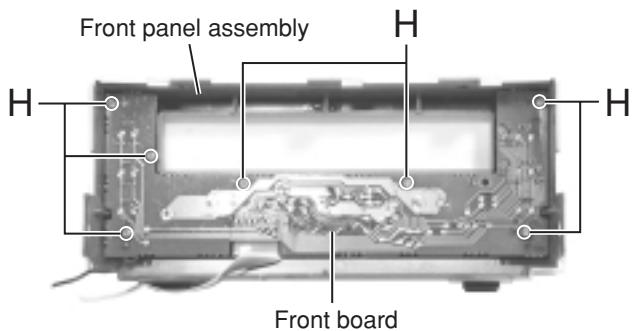

Fig. 11
■ Removing the front board (See Fig.11)